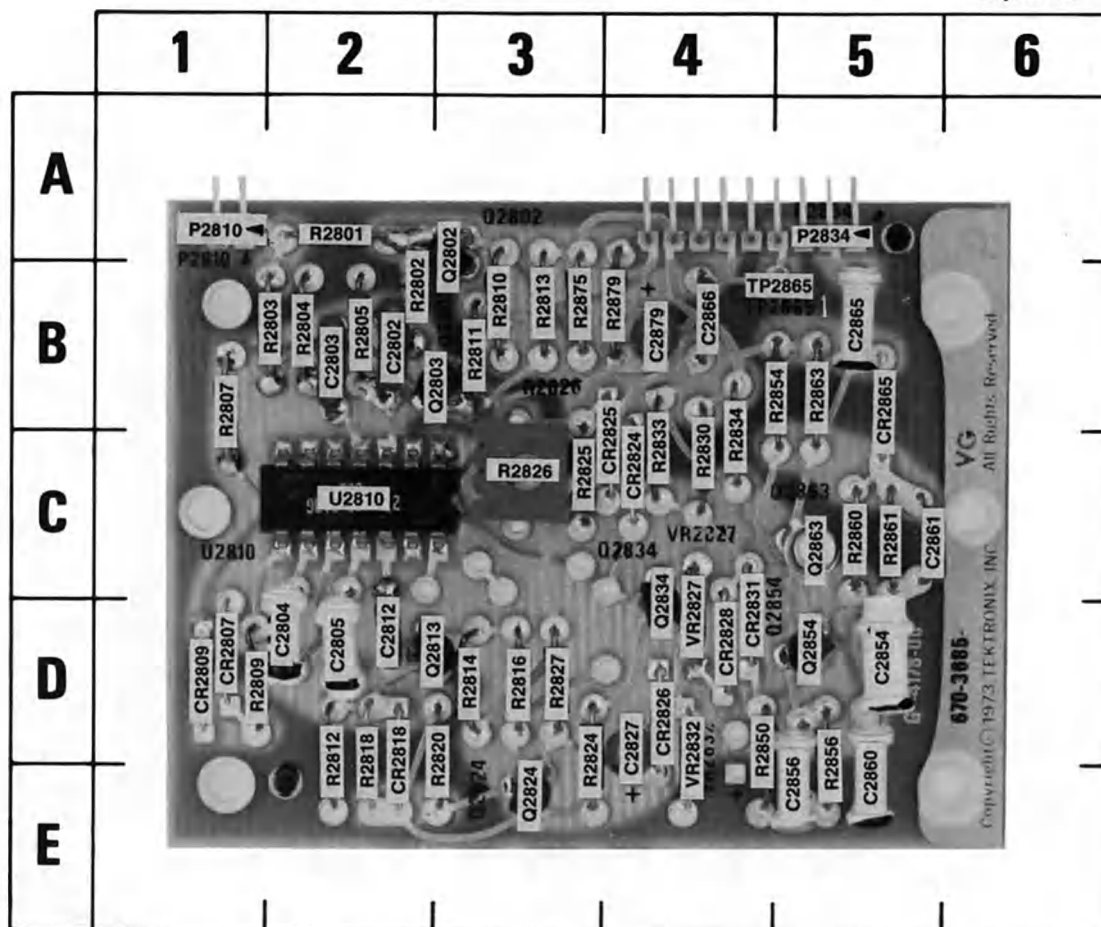

Fig. Option 5-3. A12 TV Sync Separator &amp; Inverter Ampl board component locations.
- e. Connect a 10X probe from the test oscilloscope (Vertical Volts/Div set for .2 V) to TP 2865 (see Fig. Option 5-3).